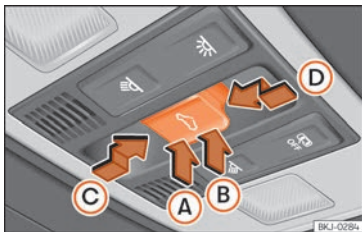

Fig. 61 On the interior roof lining: sunroof button.
The Fig. 61 button has two levels. The first level switches the sunroof to the tilted position, opening or closing it fully or partially.
- Within approximately 5 seconds of having activated the roll-back function, press the **<=>** **>>> Fig. 61** button to the second level in the direction of arrow **Ⓓ** until the sunroof closes completely.